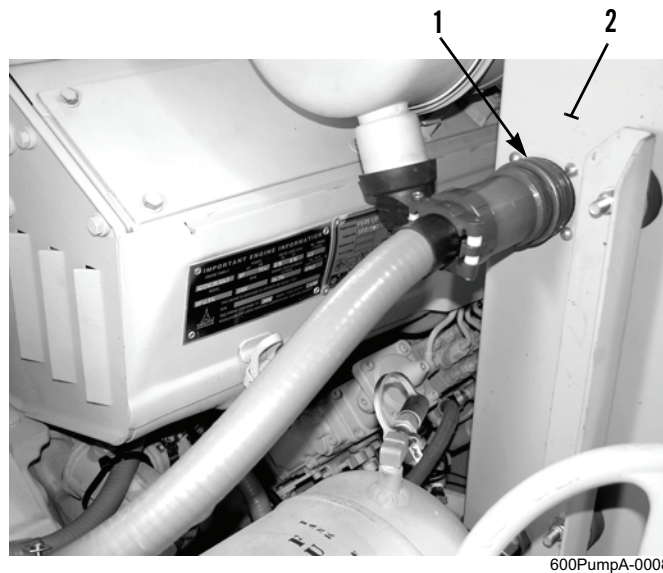

Figure 1. Control Panel Box and Wiring Harness Cable Connector.
1. Disconnect wiring harness cable connector (Figure 1, Item 1) from control panel box (Figure 1, Item 2).